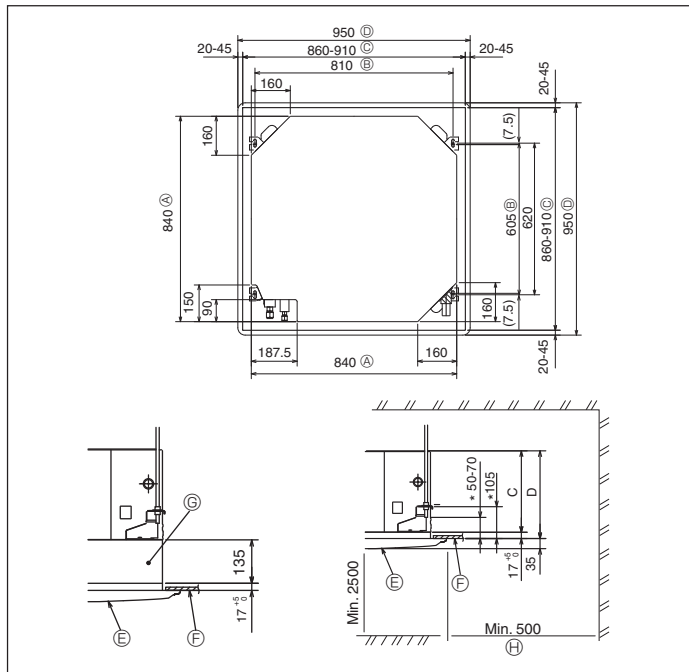

Fig. 3-2
### 3.2. Ceiling openings and suspension bolt installation locations (Fig. 3-2)
- The dimensions of ceiling opening can be regulated within the range shown in Fig.3-2; so center the main unit against the opening of ceiling, ensuring that the respective opposite sides on all sides of the clearance between them becomes identical.